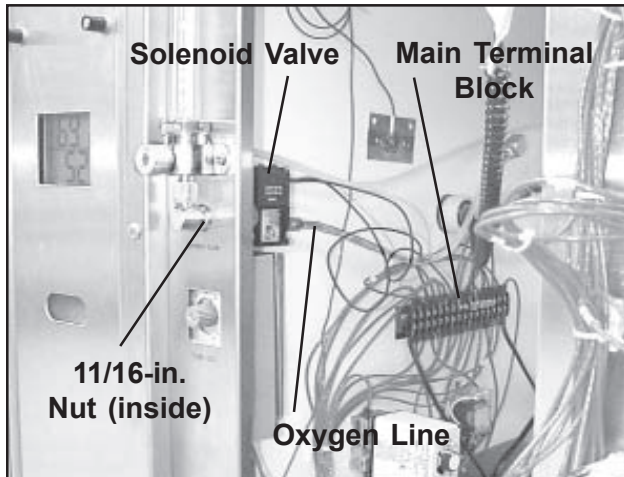

Figure 135. Solenoid Valve and Main Terminal Block
5. With a 7/16-in. wrench, dis-connect the oxygen line on the rear of the solenoid (Figure 135).
7. Two wires run from the solenoid to positions **3** and **12** on the main terminal block (Figure 135). With a Phillips screwdriver, dis-connect these two wires from the terminal block.